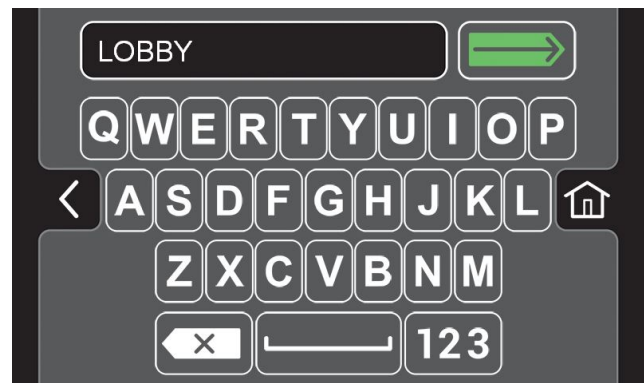

FIG. 56
3. If the zone settings are configured to scrub a lobby for example, name the zone “LOBBY” (Figure 56). Press the green arrow to save the new zone preset.